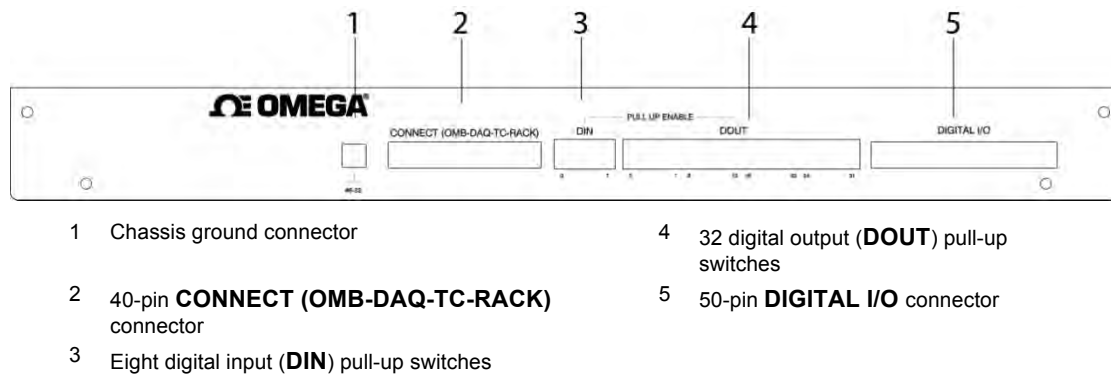

Figure 3. OMB-DAQ-TC-RACK-EXP32 rear panel components
2. Connect the chassis ground connector on the rear of the OMB-DAQ-TC-RACK-EXP32 (refer to Figure 3 on page 8) to the chassis ground connector on the rear of the OMB-DAQ-TC-RACK.
OMB-DAQ-TC-RACK-EXP32 rear panel components are shown in Figure 3.